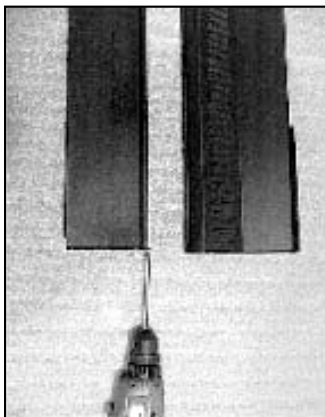

Figure 21.2
2. Set the large hole at bottom of side curtain over screw installed in **Figure 21.2**.
5. Hold side curtains in open position and lower panel set over insert setting lower edge of top panel in slot between hopper lid and panel support as shown in **Figure 22.1**. Place existing screw head (installed in **Figure 21.2**) into locator hole in floor of insert. **Figure 22.2**.
6. Lift hopper lid and press down on panel top while installing (4) 8-32 x 3/8 inch screws into holes in panel support. (If screws have been factory installed, tighten to secure panel to panel support.) Return hopper lid to closed position.